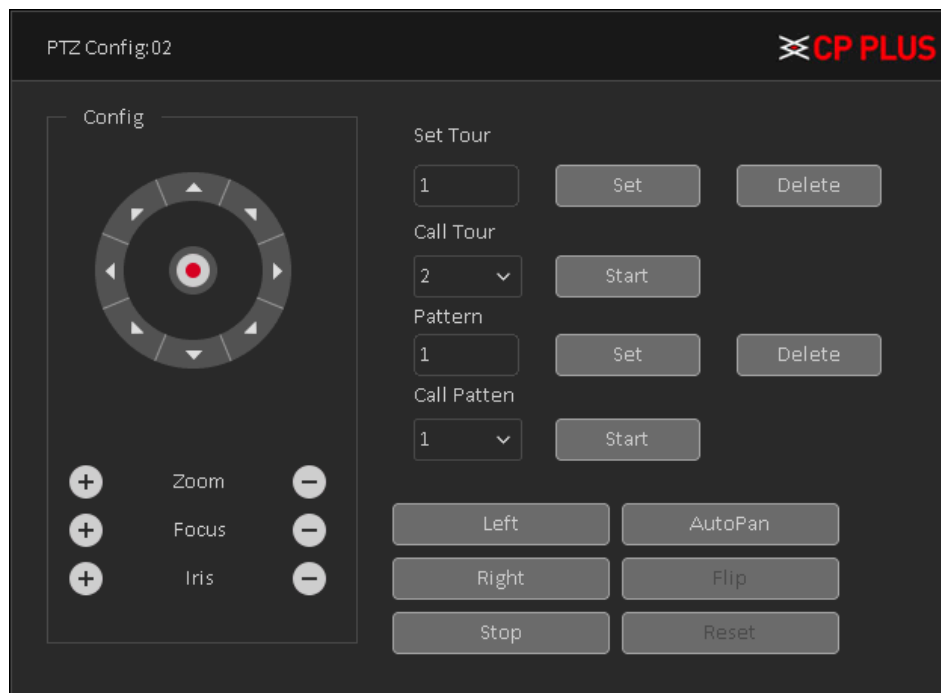

Figure 3.23
- To stop Auto Pan, click on  button. See Figure 3.23